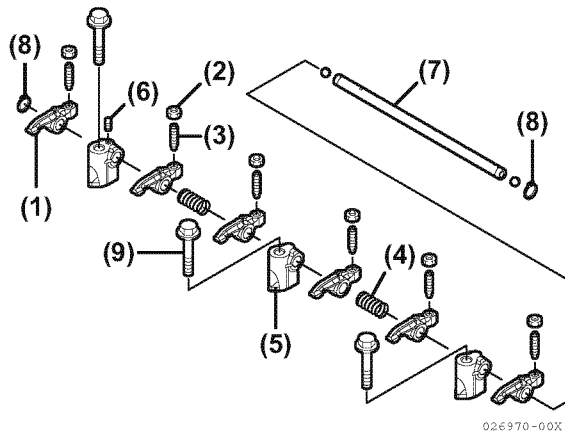

Figure 6-5
1. Remove the rocker arm shaft alignment set screw (**Figure 6-5, (6)**) from support (**Figure 6-5, (5)**).
2. Remove two circlips (**Figure 6-5, (8)**).
3. Slide the rocker arm shaft (**Figure 6-5, (7)**) out of the rocker arm supports (**Figure 6-5, (5)**), springs (**Figure 6-5, (4)**), and rocker arms (**Figure 6-5, (1)**).
4. Remove the valve adjusting screw (**Figure 6-5, (3)**) and lock nut (**Figure 6-5, (2)**) from the rocker arms. Mark parts so they can be reinstalled on the same rocker arm.